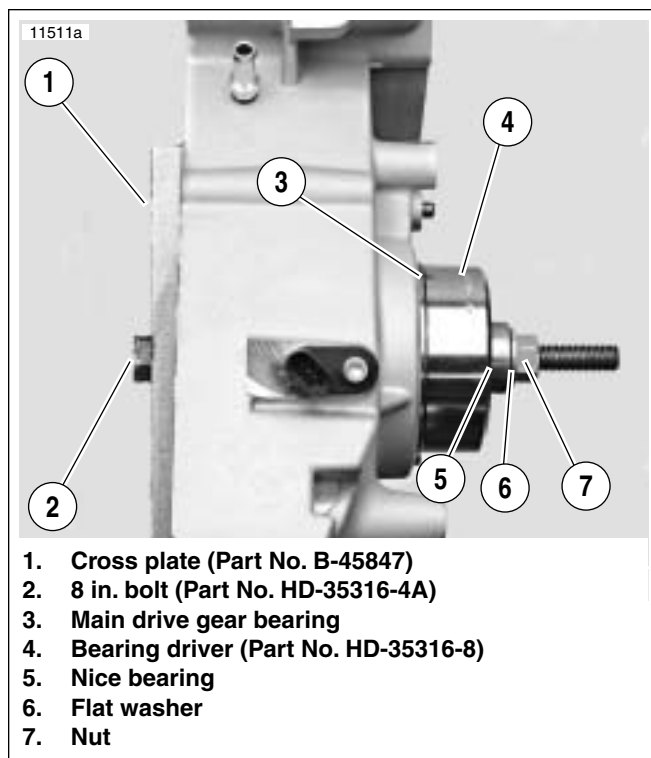

Figure 6-74. Installing Main Drive Gear Bearing
2. See Figure 6-74. Insert 8 IN. BOLT (Part No. HD-35316-4A) (2) through cross plate (1) and main drive gear bearing bore.
3. At outside of case, place main drive gear ball bearing (3), BEARING DRIVER (Part No. HD-35316-8) (4), NICE BEARING (5), FLAT WASHER (6) and NUT (7) over end of bolt.